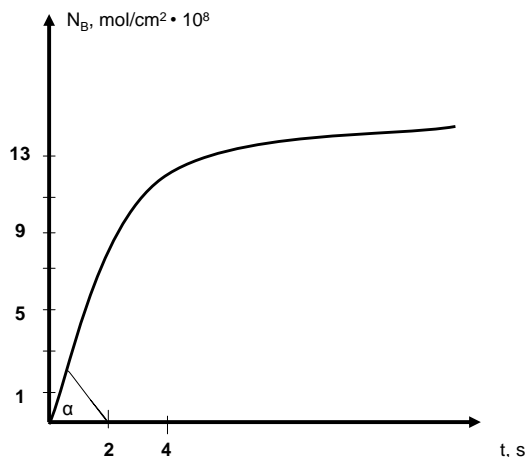

Figure 1a. The amount of the product N_B as a function of time
- The dependence of the amount of B produced at 1 cm^2 of a catalytic surface upon time is given in Fig. 1a. There are 10^{15} catalytic sites in 1 cm^2 of the surface. Estimate *TOF*.